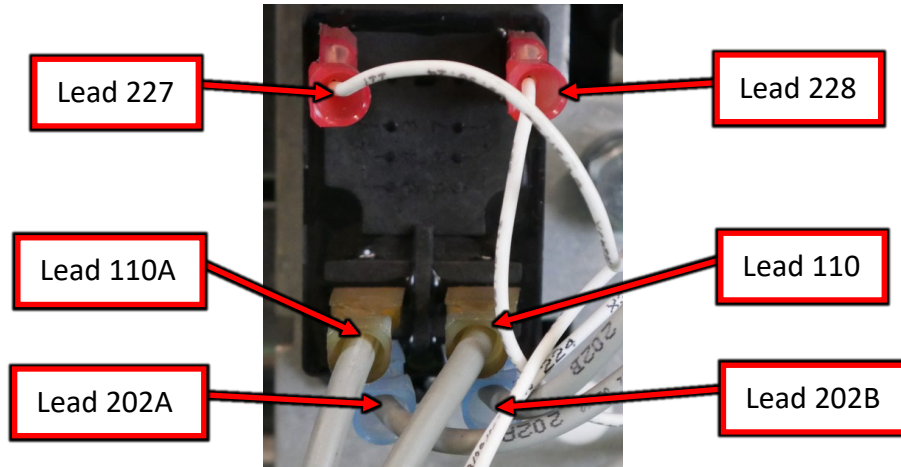

Figure F.3
B.1. Label and disconnect leads 110A, 110, 202A and 202B, refer to Figure F.3. Ensure the machine is turned ON, placed in STICK MODE and properly loaded @200A.
B.2. Perform the measurements in Test Table 2 below, refer to Figure F.3 for test point locations. NOTE: ENSURE LEADS 110A, 110, 202A AND 202B ARE DISCONNECTED.